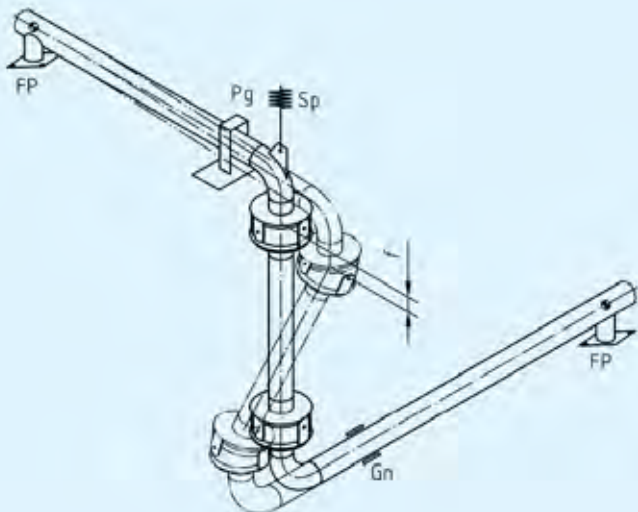

Figure 1.9
Just as hinged Expansion Joints may offer great advantages in single plane applications, gimbal Expansion Joints are designed to offer similar advantages in multi-plane systems. The ability of the gimbal Expansion Joint to absorb angular rotation in any plane is most frequently applied by utilizing two such units to absorb lateral deflection. An application of this type is shown in Figure 1.9. Since the pressure loading is absorbed by the gimbal structure, intermediate anchors only are required. Planar guides are provided to restrict the movement of each piping leg. As in the case of hinged Expansion Joints, the location of pipe supports is simplified by the load carrying ability of the gimbal structure. Since, in a two gimbal system, the growth of the vertical pipe leg will be absorbed by bending of the long legs, spring supports (SS) may be required on either or both of these. Guides must be designed to allow for the thermal expansion of the leg containing the Expansion Joints and for the shortening of this leg due to deflection.